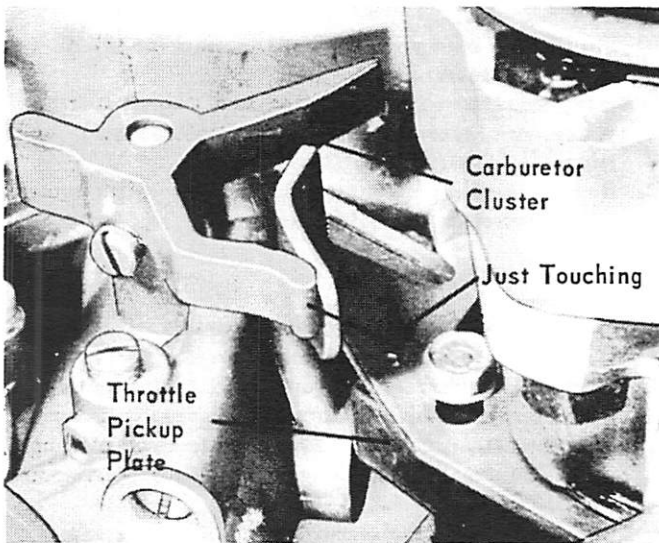

Figure 3. First Throttle Pickup Tab Adjustment
11. Loosen throttle pickup plate screws. (Figure 3)
12. Slide throttle pickup plate so that tab (without nylon sleeve) just touches carburetor cluster. (Figure 3)